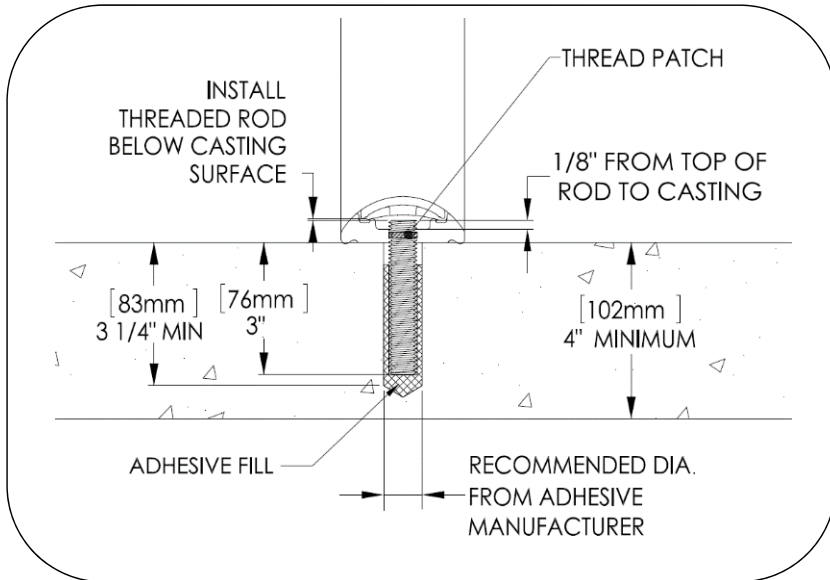

Fig. 1 – install threaded rods for embedded mount
1. Thread anchor rods with thread patch into bike rack as shown in Fig. 1.